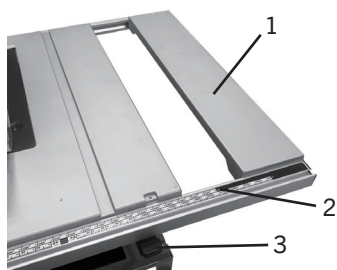

FIG. 17
2. Unlock the extension table (1) (Fig.17) by raising the table extending locking lever (3), slide the extension to the desired width. Use the scale on the front rail (2) when a specific width is desired, or measure the distance from the blade for precise cuts.
3. Once the extension table is in the desired position, lower the table extending locking lever (3) to secure the extension in place. The rip fence can now be reinstalled.